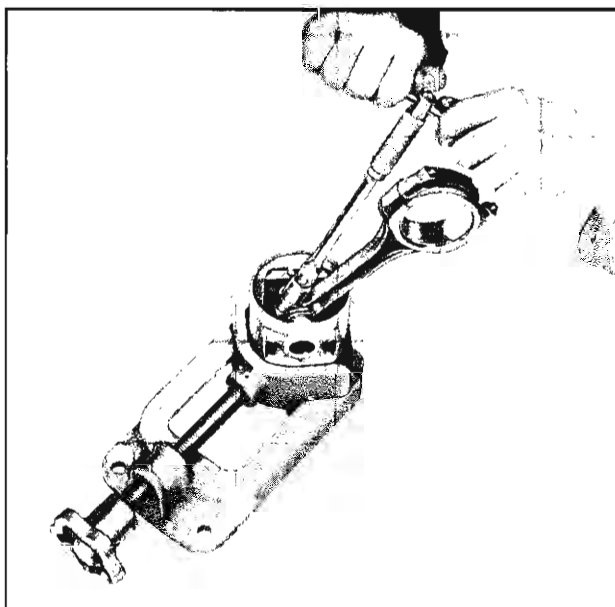

Fig. 31—Piston in Piston Vise
1. Clamp the piston in piston vise Tool J-1218 (fig. 31), remove the connecting rod to piston pin clamp bolt and push the piston pin out. Remove connecting rod from piston.
2. Clamp the piston in piston vise Tool J-1218 (fig. 31), insert the connecting rod in the piston (so that connecting rod clamp screw and oil hole will be toward right side of engine) and install the piston pin. Center the piston pin in the piston and the connecting rod in the center of the two piston pin bosses.